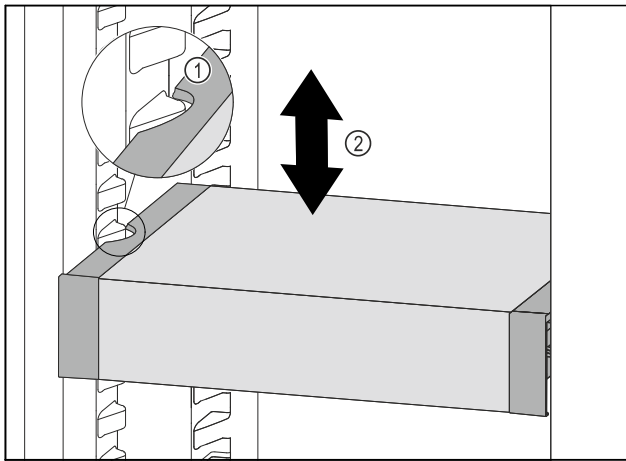

Fig. 93
- ▶ Pull VarioSafe forwards until the recesses in the side of the VarioSafe are at the level of the support rib in the refrigerator compartment. Fig. 93 (1)
- ▶ Move VarioSafe up or down in the refrigerator compartment until the desired height is reached. Fig. 93 (2)